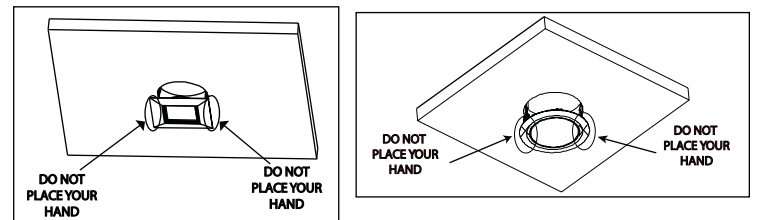

Figure 7 / Figura 7 / Schéma 7
■ DO NOT PLACE YOUR HAND UNDERNEATH SPRING CLIP DURING REMOVAL PROCESS. SNAPPING OF THE CLIPS CAN CAUSE INJURIES TO THE HAND. (Figure 7)